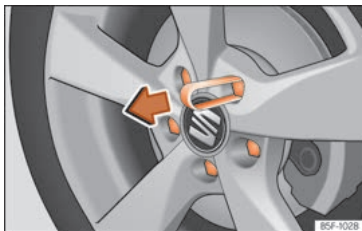

Fig. 75 Wheel: wheel bolts with caps.
- Fit the plastic clip (vehicle tools) over the cap until it clicks into place » **Fig. 75**.